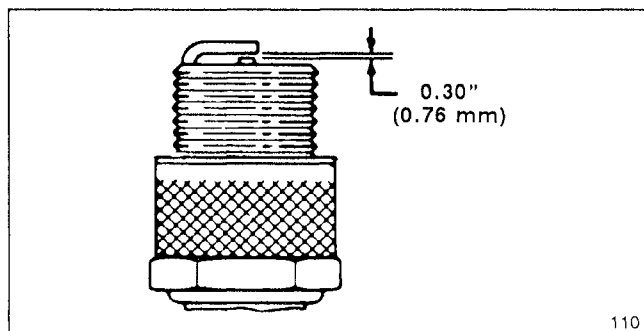

Figure 32
3. Set air gap between electrodes of new spark plug at 0.030" (0.76 mm) (Fig. 32). Next, install spark plug in cylinder head. Tighten plug to 15 ft-lb (20.4 N-m).